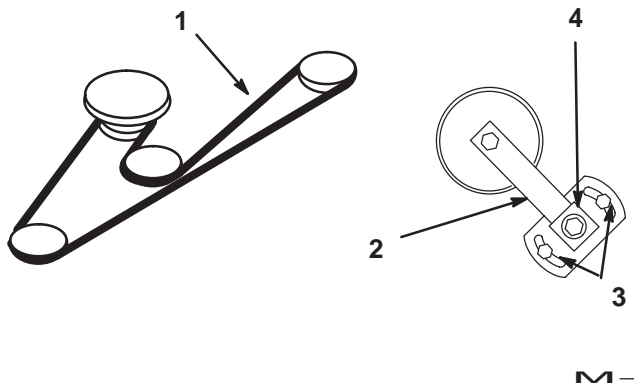

Figure 61
3. Loosen two nuts securing idler plate and move the idler arm to relieve belt tension on the idler pulley, then remove the worn deck belt (Fig. 61).
4. Install the new deck belt around the spindle pulleys, belt guide, the idler pulley, and in the lower groove of the center spindle pulley (Fig. 61).